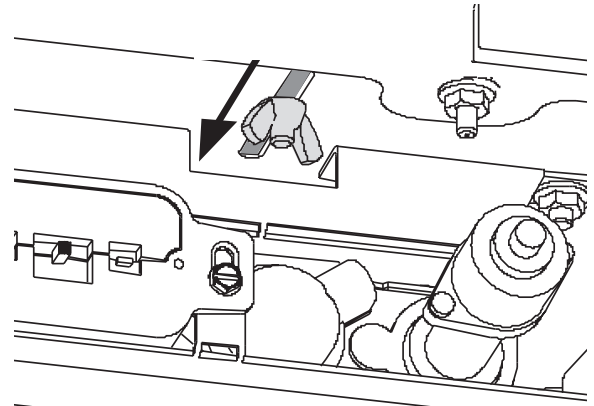

Figure 2.
3. Open the Controls Panel under the firebox. Loosen the Air Shutter wing nut located below the firebox floor and push the stem back far as it will travel. See fig. 2.